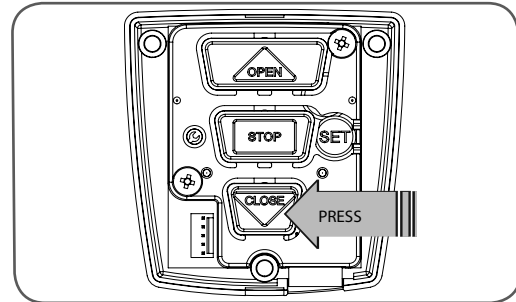

fig 09
2. Press and hold the CLOSE button (**Fig. 09**) - the shutter should start closing.